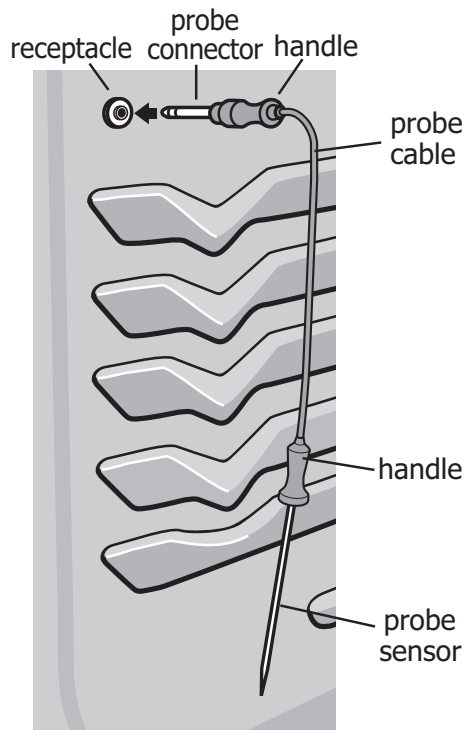

Figure 15: Using the probe
Do not use kitchen utensils to pull on the probe cable or handles. Always insert and remove the probe using the provided handles, as shown in Figure 15, and always use a pot holder to protect hands from possible burns.
2. Plug the connector end of the probe all the way into the probe receptacle while the oven is still cool. The receptacle is located on the upper left front oven cavity wall (See Figure 15).